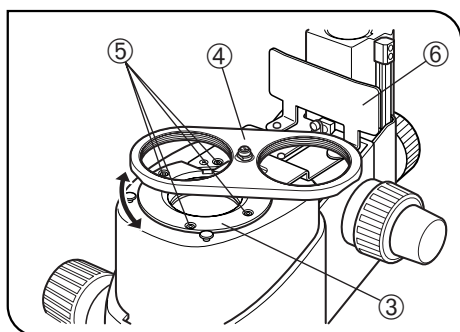

Fig. 20
4. Place the nosepiece mount ③ (with its objective mounts ④ facing upward) where the objective has been by aligning the screw holes. Using the Allen wrench (for M3 screws), clamp the nosepiece mount with the provided four clamping screws (M3, 6 mm long) ⑤. (Fig. 20)
★ As the screw holes may be hidden behind the objective mounts ④, clamp the nosepiece mount while rotating it. (Fig. 20)
6. Attach two objectives onto their respective objective mounts ④ by screwing. (Fig. 20)